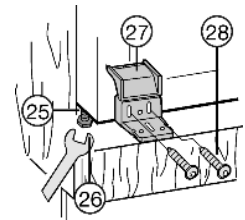

Fig. 21
- Align the plastic bracket *Fig. 21 (27)* in depth so as to be flush with the front edge of the base of the unit.
- allow for additional space needed: align plastic bracket *Fig. 21 (27)* parallel to the front edge of the hinge.
- Align plastic bracket *Fig. 21 (27)* in depth so as to be flush with the front edges of the side walls of the unit, even if the bracket projects over the base of the unit as a result.
- Level the appliance by means of the adjustable feet *Fig. 21 (25)* using the accompanying spanner *Fig. 21 (26)*.